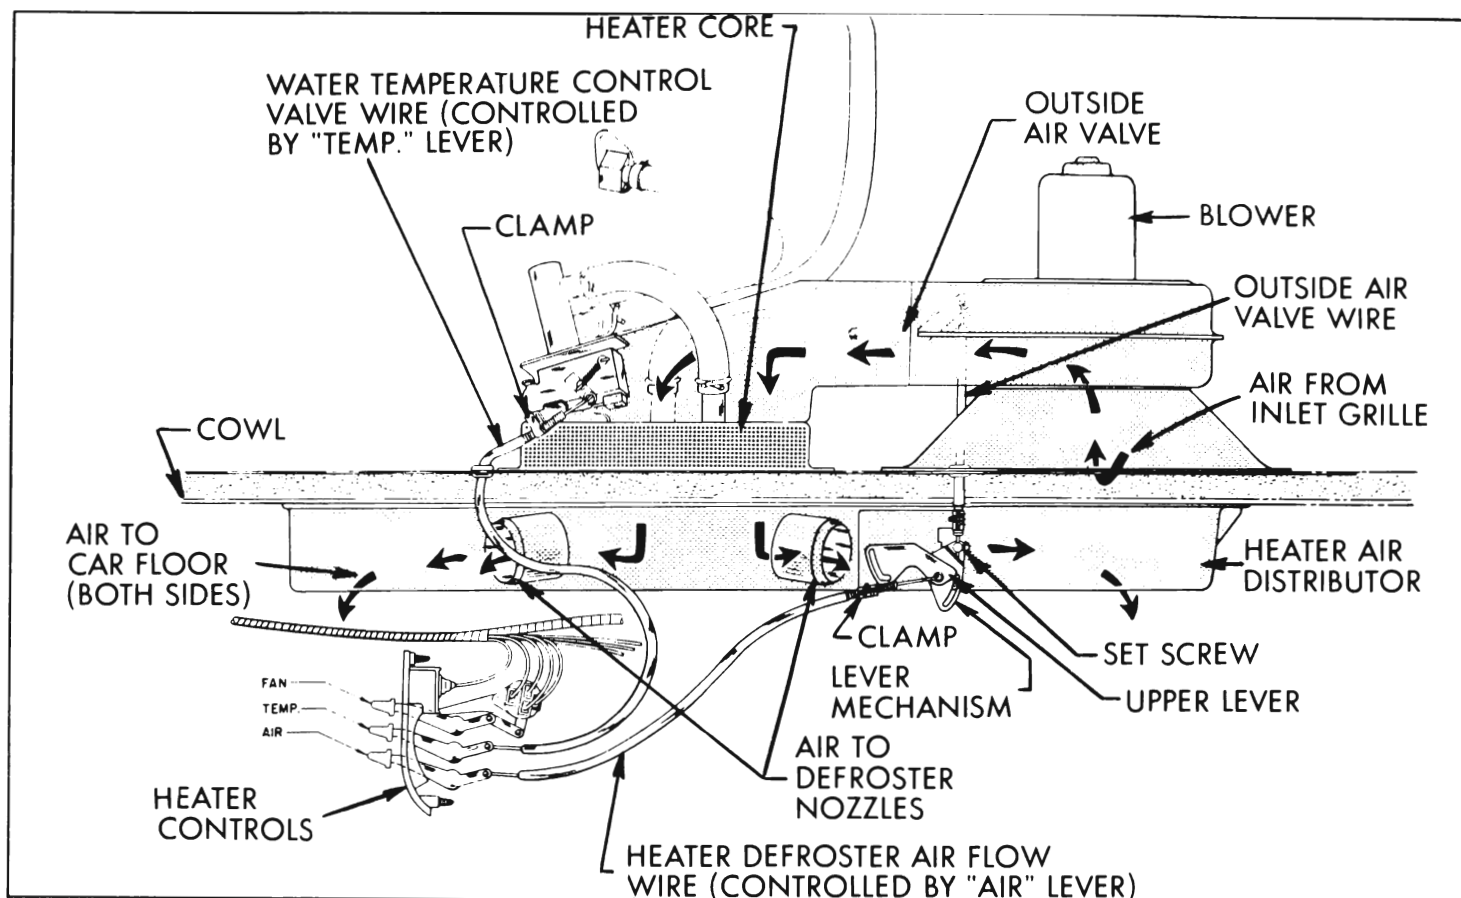

Figure 11-12—Heater Air Flow and Control Wires
Air flow through the heater system when the outside air valve is open, is through the inlet grille forward of the windshield reveal molding, through air inlet and blower assembly, into heater core case and through core into heater air distributor. See Figure 11-12,
The “Air” lever controls the opening of the outside air valve and the positioning of the two shut-off valves in the heater air distributor by means of two bowden wires and the lever mechanism on distributor. See Figure 11-12. The “Air” control lever has a center detent position. In the full up position the outside air valve is closed. When the lever is moved downward to the detent “on” position, the outside air valve is opened. The valves in the distributor are open as the moving of the “Air” lever from off to the detent has no effect on their position. The center detent position allows maximum air flow to the car floor. Moving the “Air” lever farther down from this detent closes the valves in the distributor and increases the air flow to the defroster nozzles. Maximum air flow for defrosting is obtained when lever is fully down.
1. Loosen clamp that retains the "Air" lever control wire cable and the set screw that retains the outside air wire to lever mechanism on heater air distributor. See Figure 11-12.
1. Loosen clamp that retains "Temp" control wire to heater core case. See Figure 11-12.